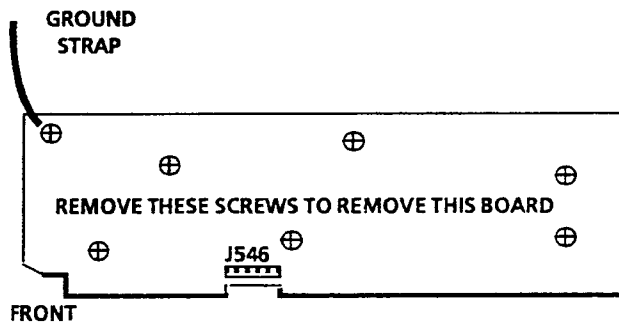

Fig. 6-11. Screws holding the Power Supply board (A1) in place.
6. Remove the seven screws that are holding the Power Supply board down. See Fig. 6-11.